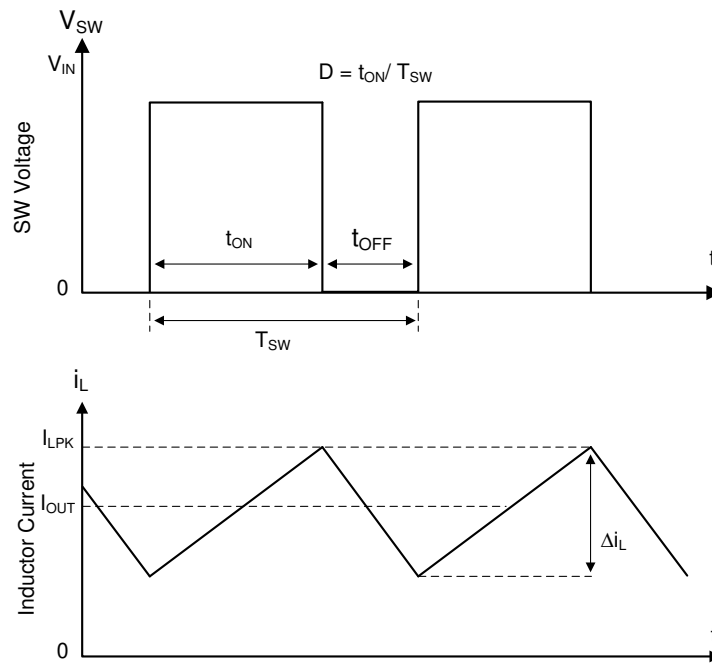

Figure 7-1. SW Node and Inductor Current Waveforms in Continuous Conduction Mode (CCM)
The following operating description of the LMR51460-Q1 refers to Functional Block Diagram and to the waveforms in Figure 7-1. The LMR51460-Q1 is a step-down synchronous buck converter with integrated high-side (HS) and low-side (LS) switches (synchronous rectifier). The LMR51460-Q1 supplies a regulated output voltage by turning on the high-side and low-side NMOS switches with controlled duty cycle. During high-side switch ON time, the SW pin voltage swings up to approximately V_{IN} , and the inductor current, i_L , increases with linear slope $(V_{IN} - V_{OUT}) / L$. When the high-side switch is turned off by the control logic, the low-side switch is turned on after an anti-shoot-through dead time. Inductor current discharges through the low-side switch with a slope of $-V_{OUT} / L$. The control parameter of a buck converter is defined as Duty Cycle $D = t_{ON} / T_{SW}$, where t_{ON} is the high-side switch ON time and T_{SW} is the switching period. The converter control loop maintains a constant output voltage by adjusting the duty cycle D . In an ideal buck converter, where losses are ignored, D is proportional to the output voltage and inversely proportional to the input voltage: $D = V_{OUT} / V_{IN}$.